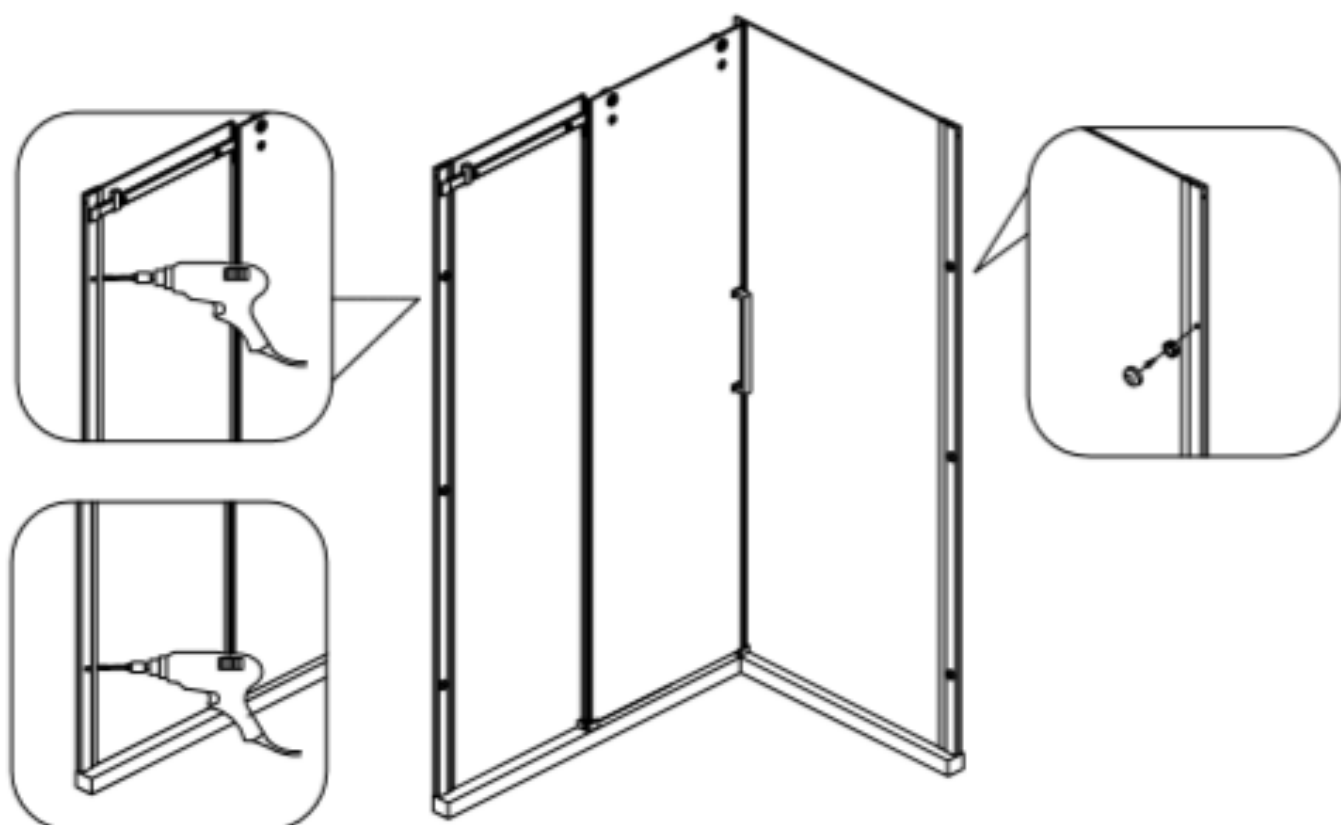

Fig 15
14. Adjust the bedded position of wall profiles and glass profiles, and cover the **screw caps (25)**. (Fig 15)